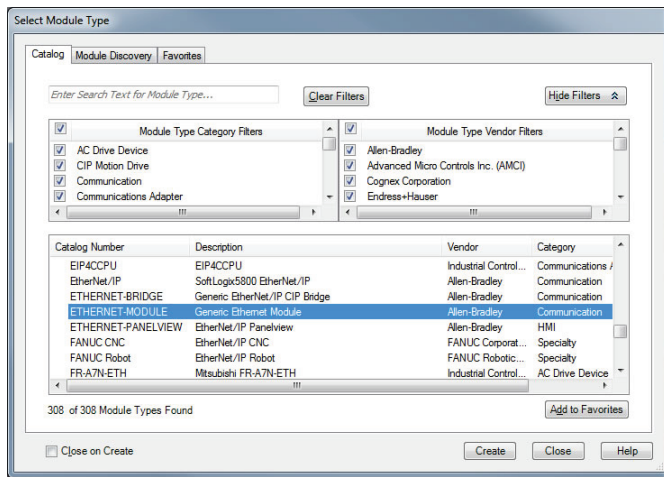

Figure 41: Adding a New Generic Ethernet Module
- 3) Choose “Generic Ethernet Module” in the Select Module dialog box and click “Create”. Refer to Figure 41.